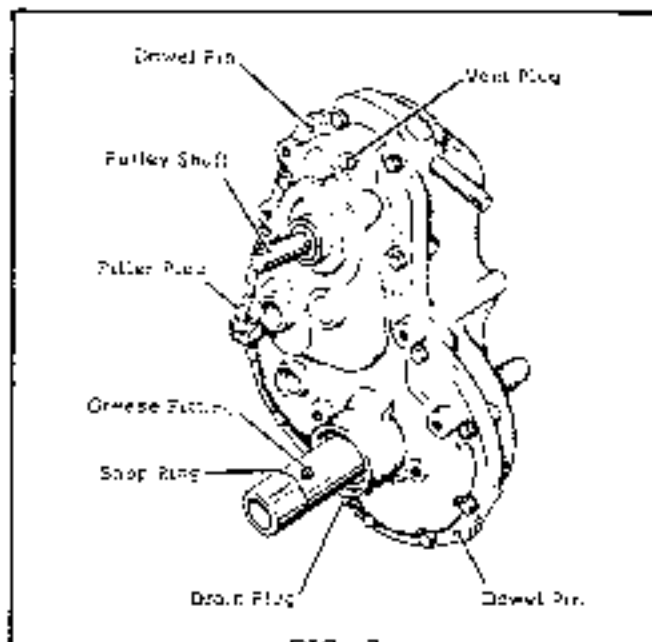

FIG. 7
13. Assemble the grease fitting and snap ring to the axle tube as shown in Fig. 7.